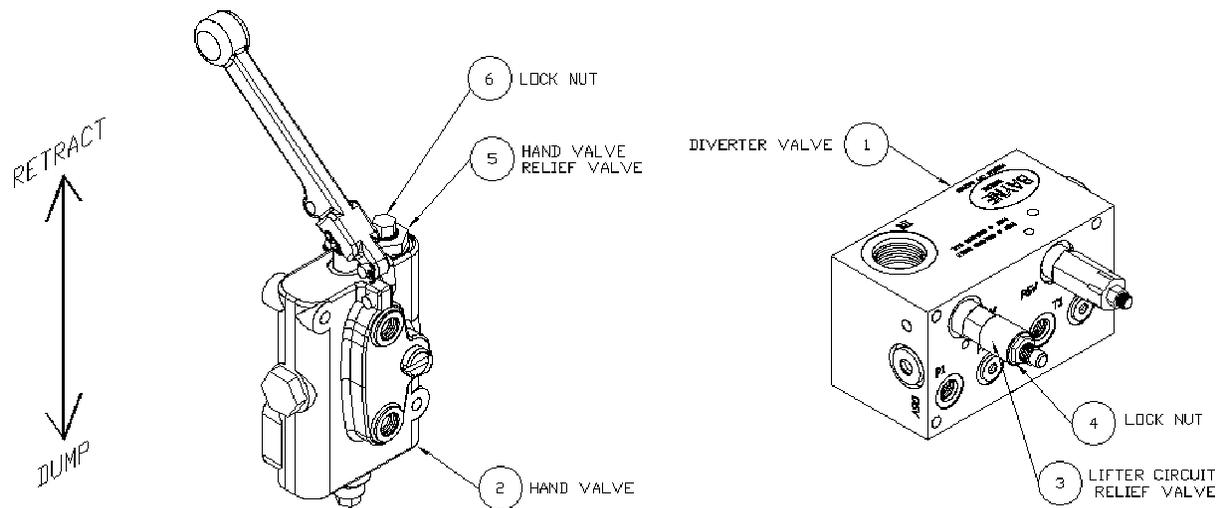
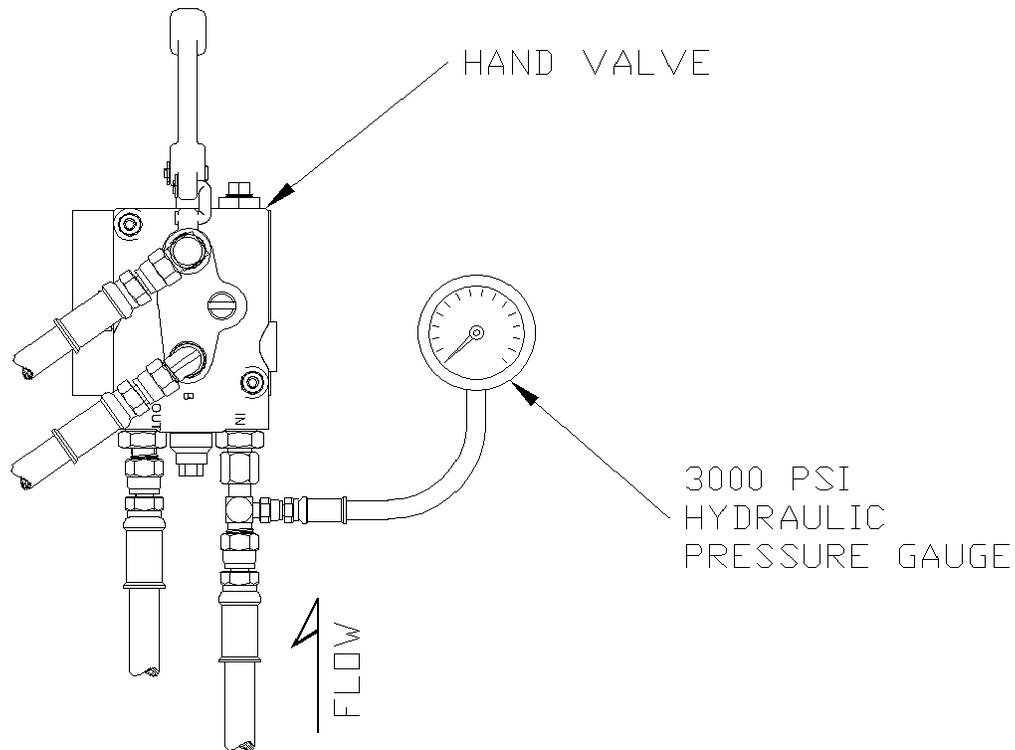

figure I-4
figure I-5
The diverter valve (1) (figure I-4) supplies the cart lifter hydraulic system with approximately 2 GPM of oil flow. This diverter valve is equipped with a full system relief valve (4) set at 2500 psi, to protect the truck's hydraulic system from any blockages that may occur down stream of the diverter valve. The diverter valve also includes a lifter circuit relief valve (3) set at 2300 psi, to prevent the diverter valve from shutting down if a blockage occurs in the lifter circuit. There is also a relief valve (5) set at 1800 psi in the hand valve (2) to protect the lifter from excessive pressure. These relief valves are preset from the factory to operate properly on most trucks with a system pressure between 2300 and 2500 psi without any adjustment. However, if any adjustment is necessary, follow these instructions.
2. Remove the cap nut(s) (8) (*figure I-4*) from the hand valve relief valve(s) (5) and turn the adjustment screw(s) clockwise until it bottoms out.
3. Loosen the lock nut (6) (*figure I-4*) on the lifter circuit relief valve (3) and turn the adjustment screw clockwise until it bottoms out.
4. Loosen the lock nut (7) (*figure I-4*) on the full system relief valve (4) and turn the adjustment screw counter-clockwise until it stops backing out.
7. Operate the handle on the hand valve (2) (*figure I-4*) back and forth a few times to bleed all air from the lifter hydraulic system.
- a) Have an assistant hold the handle on the hand valve (2) (*figure I-4*) in the "retract" position. *If installing dual lifters hold the handle down on only one of the hand valves.*
- b) Turn the pressure relief adjustment screw on the full system relief valve (4) clockwise until the pressure reading on the gauge is either 100 psi above truck system pressure, or if the pressure reaches a certain point and will not go any higher, set the adjustment screw 1/2 turn past that point.
11. Install the 3000 psi hydraulic pressure gauge with the necessary adapter in the hydraulic line connected to the "IN" port of the hand valve as shown in figure I-5. *If installing dual lifters, install the hydraulic gauge at either one of the hand valves.*
- a) Have an assistant hold the handle on the hand valve (2) (*figure I-4*) (*with pressure gauge installed at the "IN" port*) in the "retract" position to show pressure on the gauge.
- b) Turn the pressure relief adjusting screw on the lifter circuit relief valve (3) counter-clockwise until the pressure reading on the gauge is either 100 psi less than the truck system pressure or 2300 psi, which ever is the lowest.
- a) Hold the handle on the hand valve (2) (*figure I-4*) (*with pressure gauge installed at the “IN” port*) in the “retract” position to show pressure on the gauge.
- b) Turn the pressure relief adjusting screw on the hand valve relief valve (5) counter-clockwise until the pressure reading on the gauge is either 200 psi less than truck system pressure or 1800 psi, which ever is the lowest.
- f) *For dual lifters, install the hydraulic pressure gauge in the “IN” port of the other hand valve as shown in figure I-5, start the truck’s engine, engage the hydraulic system, and repeat step 14.*
15. Reinstall the cap nut(s) (8) (*figure I-4*) on the hand valve relief valve(s) (5) to secure the correct pressure setting(s).
16. Tighten the lock nut (7) (*figure I-4*) on the full system relief valve (4) to secure the correct pressure setting.
17. Tighten the lock nut (6) (*figure I-4*) on the lifter circuit relief valve (3) to secure the correct pressure setting.